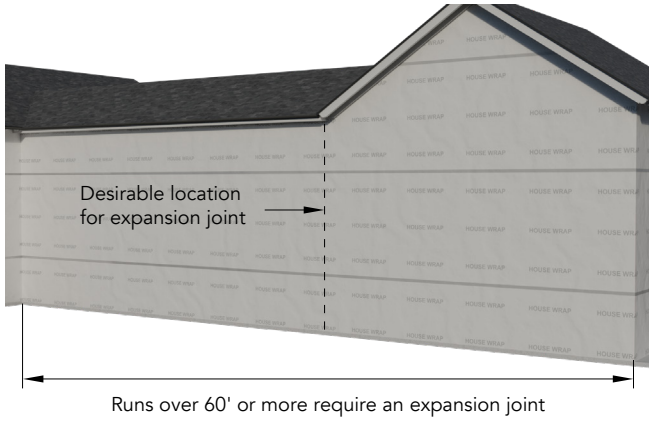

Figure 1a
- Locate Trim Receiver 6915 near the center of the wall, square, and fasten (Figure 1a/b).